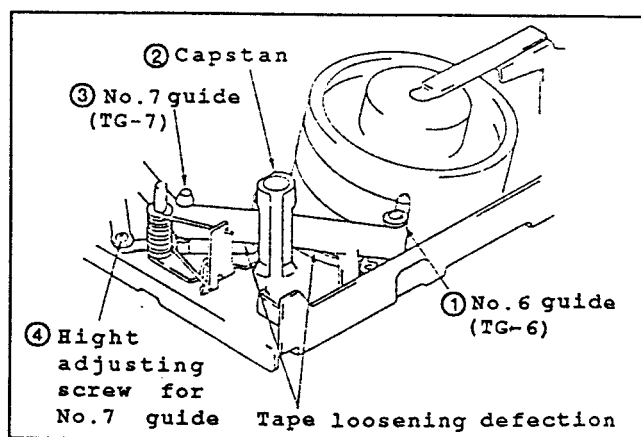

Fig.II-40
- (1) Playback the tape having 10 $\mu$ m in thickness (P6-120 etc.). Then, set it to REV mode.
- (2) Confirm that the tape is not creased at the lower flange ② of No.2 guide ①. If creased, turn the upper flange ③ of No.2 guide ① clockwise until the crease removed.
- (3) Playback the Alignment tape for tracking adjustment.
- (4) In the same procedures in "4-2" and "4-3", perform the tracking and tracking fine adjustments.
- (5) At track shift mode, playback the tape after CUE/REV mode. Confirm that the RF envelope rises horizontally within 2 sec as shown in Fig.II-40.
- (6) If not, turn the upper flange ③ of No.2 guide ① counter clockwise by 90°. Then, perform the step (5) again.
#### 4-5 No.7 Guide Adjustment (Fig.II-40)